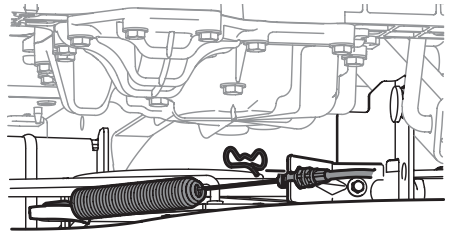

Figure 39
7. Remove the bow tie clip that secures the PTO cable to the bracket on the deck, slide the PTO cable out of the bracket and unhook the spring from the idler bracket (Figure 39).